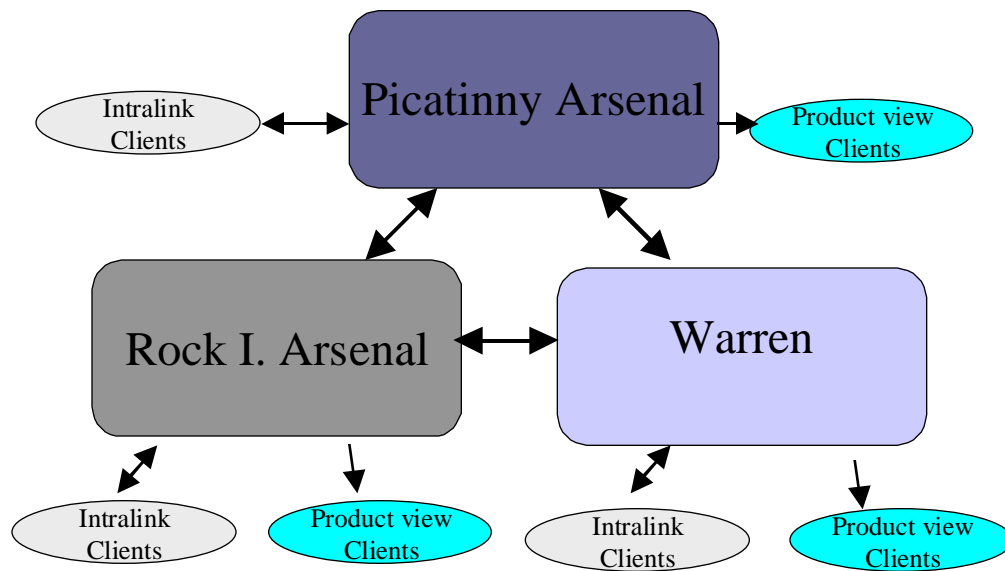

Figure 3. INTRALINK Client-Server Map
6.0 PRODUCT DATA MANAGEMENT SYSTEM: The Product Data Management system used to maintain the 3-D TDP system will be Pro/INTRALINK. The metadata for the system will be maintained at Picatinny Arsenal, Dover NJ with replicated sites at Rock Island Arsenal and TACOM-Warren. The sites shall be configured as shown in figure 3.